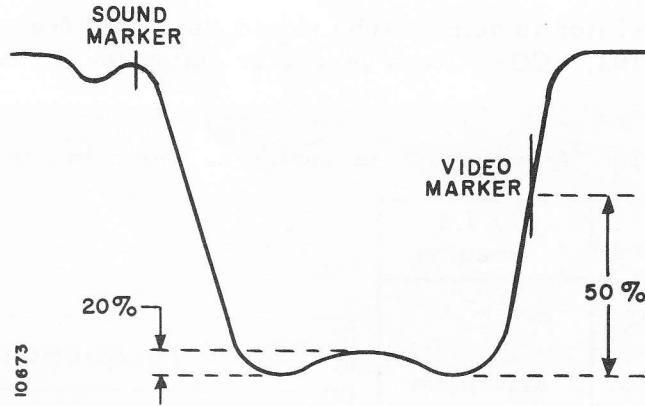

Figure 18. Over-all RF - IF Response Curve.
7. Set tuner channel selector to channel 10. Adjust the RF-plate trimmer A1, and mixer grid trimmer, A 2 for flat response and the video-carrier marker appearing 6 db (50%) down from the peak of the overall response curve as shown on Figure 18. The RF tilt should be no greater than 2 db (20%) for all channels. The valley (dip between peaks) should not vary more than 20% of the total amplitude of the curve. See Figure 18.
8. Set tuner channel selector and sweep generator to channel 10. Increase RF-Bias to a voltage just before cut-off of the RF tube, and at the same time increase the sweep input signal to maintain 2 volts peak to peak at test point V. This condition occurs at a bias voltage (up to 15 volts may be required), where no more gain reduction appears on the scope for increase in bias. The response should be flat as shown in Figure 18.